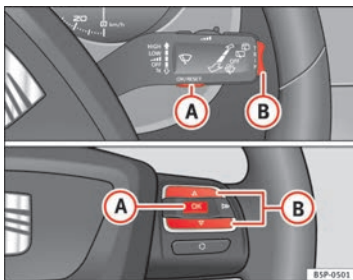

Fig. 40 Rocker buttons A and B. Steering wheel controls.
A **Service pre-warning** will appear in the mileage displays if a service is due soon. A “spanner” symbol appears and the display “km” with the distance that can be driven until the next service appointment is due. The display will change after approximately 10 seconds. A “clock symbol” appears and the number of days until the service appointment should be carried out. The following message is shown in the dash panel display: **SERV. IN... KM OR... DAYS**. The service message will disappear approximately 20 seconds after the ignition is switched on or the engine is running. The normal display can be resumed by pressing the reset button on the trip counter or by pressing the rocker switch of the MFI ⇒ fig. 40 B.
- When the ignition is on, briefly press button **A** on the windscreen wiper lever to change from one memory to another or press button **A** on the steering wheel controls \Rightarrow page 63, fig. 40.